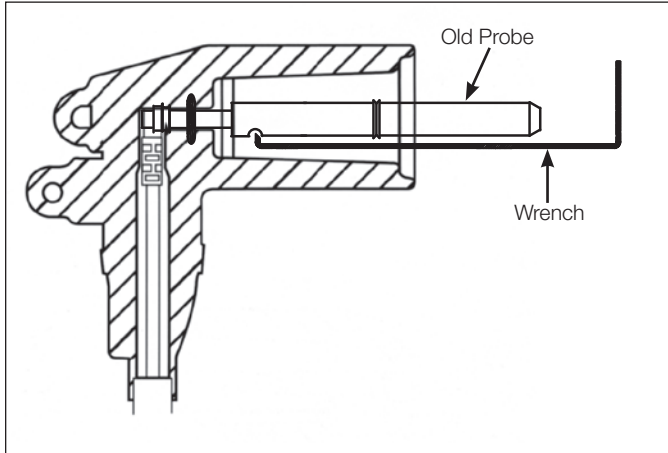

Figure 1.
- Using one of the loose wrenches provided, remove “old” probe from the elbow and discard. (See Figure 1.)